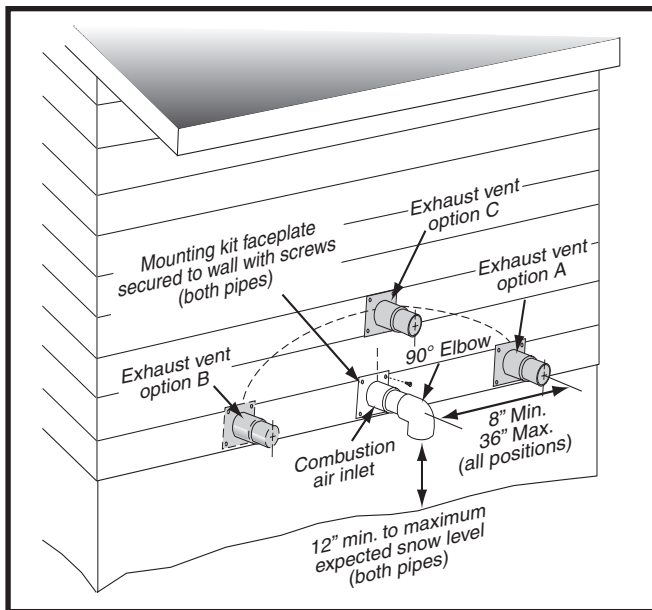
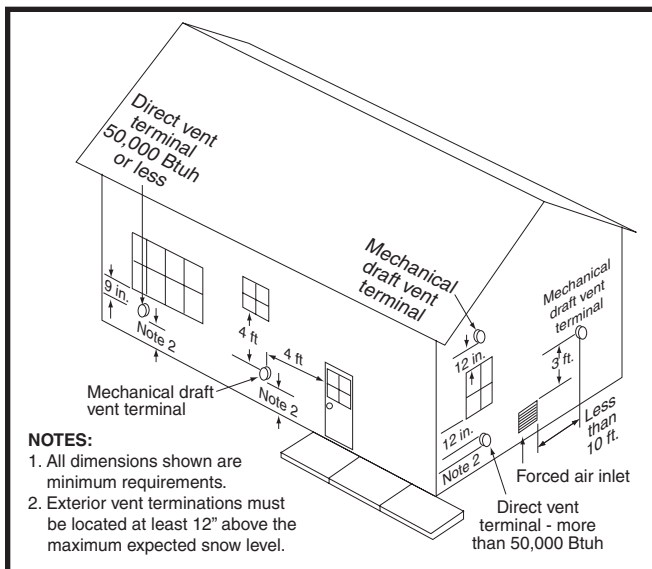
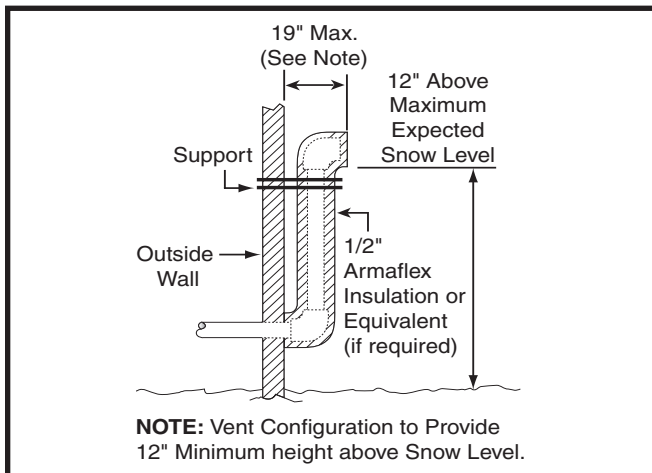
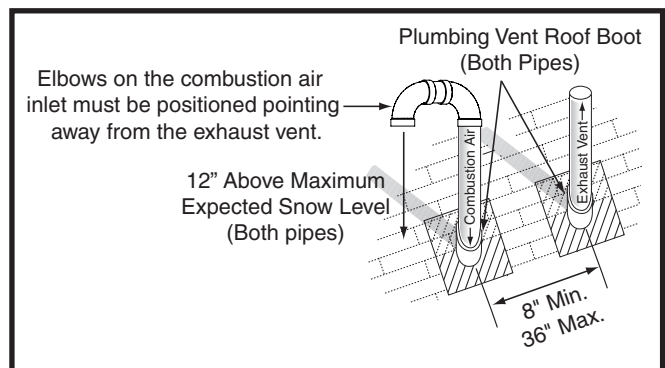

Figure 1. Inlet & Exhaust Pipe Clearances
Figure 2. Vent Locations
Figure 3. Alternate Horizontal Vent Installation
Figure 4. Vertical Vent Termination
- When a 2-pipe system is used, the combustion air intake and the vent exhaust must be located in the same atmospheric pressure zone. This means both pipes must exit the building through the same portion of exterior wall or roof as shown in Figure 1, Figure 2 & Figure 4 \(page 9\) and Figure 32 \(page 37\).
- Vent and combustion air intake terminations shall be installed as shown in Figure 1, Figure 2, Figure 3, & Figure 4 and in accordance with these instructions:
- All minimum clearances (Figure 2) must be maintained to protect building materials from degradation by flue gases.
- When the vent pipe must exit an exterior wall close to the grade or expected snow level where it is not possible to obtain clearances shown in Figure 1, a riser may be provided as shown in Figure 3. Insulation is required to prevent freezing of this section of pipe. See Table 3, \(page 10\) for vent freezing protection.
Termination spacing requirements from the roof and from each other are shown in Figure 4. The roof penetration must be properly flashed and waterproofed with a plumbing roof boot or equivalent flashing. Vent and combustion air piping may be installed in an existing chimney which is not in use provided that:
- The termination clearances shown in Figure 4 are maintained.